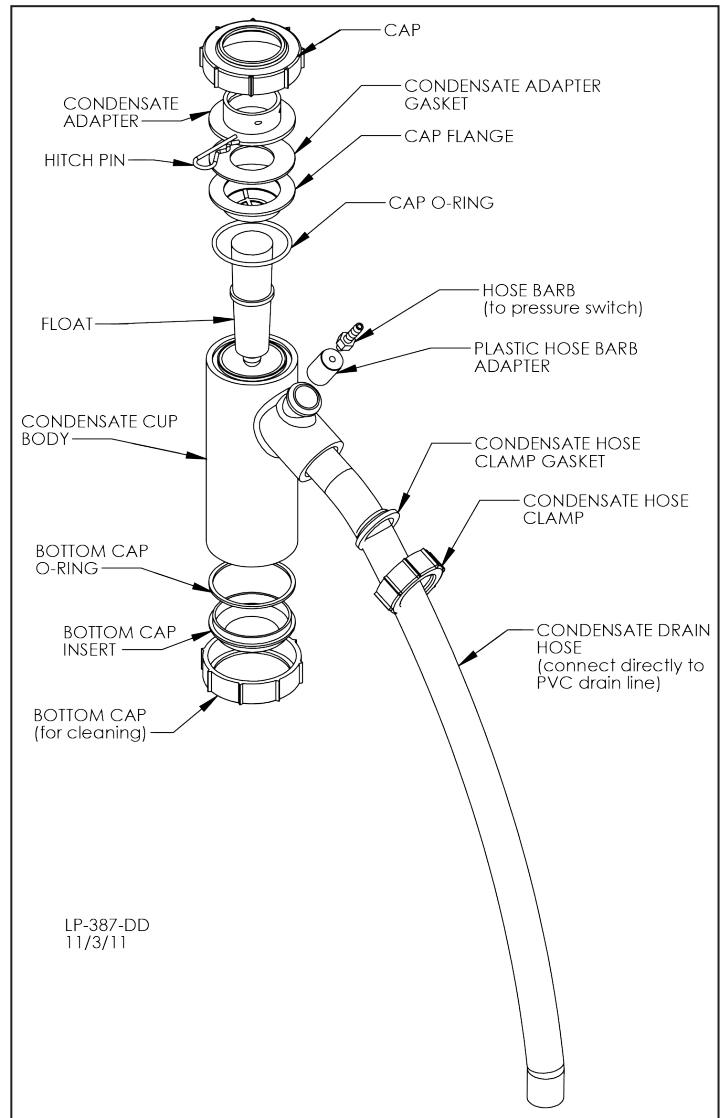

Figure 24 - Condensate Trap Detail
1. Ensure all parts shown in Figure 24, Condensate Detail, are included with the condensate trap. If any parts are missing, **DO NOT** install the trap. Replace the entire condensate assembly.